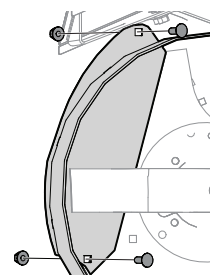

Figure 5
- a. Install discharge baffle to underside of top of deck with two carriage bolts (710-3168) and two hex flange nuts (712-05007). See Figure 5.